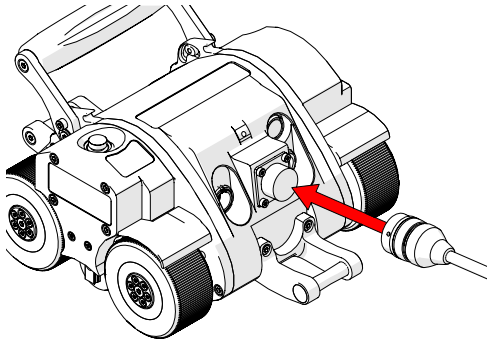

Fig. 40 - Connect to umbilical
1. Align the pins of the umbilical to the connector at the rear of the **SKOOT•X** (Fig. 40).